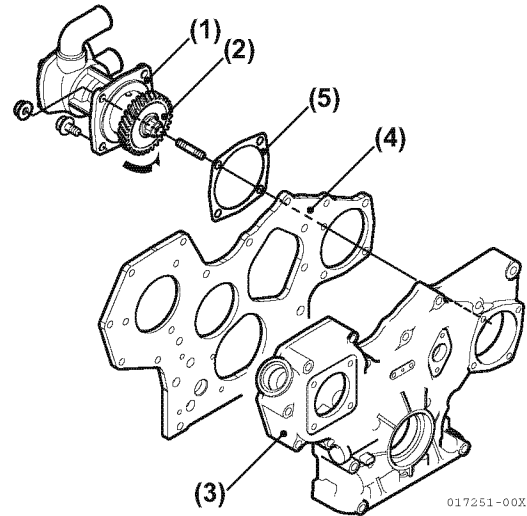
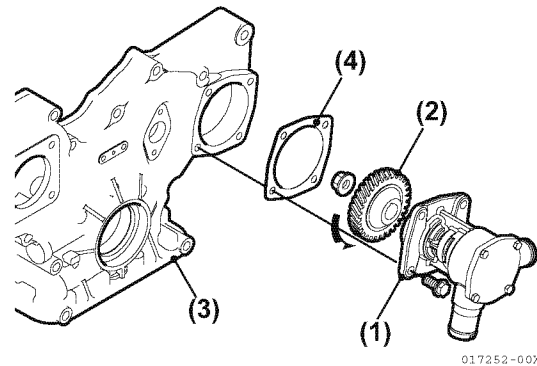

Figure 5-172
Figure 5-173
- 48. Install the seawater pump assembly and gasket to the gear case (Figure 5-172) and (Figure 5-173).